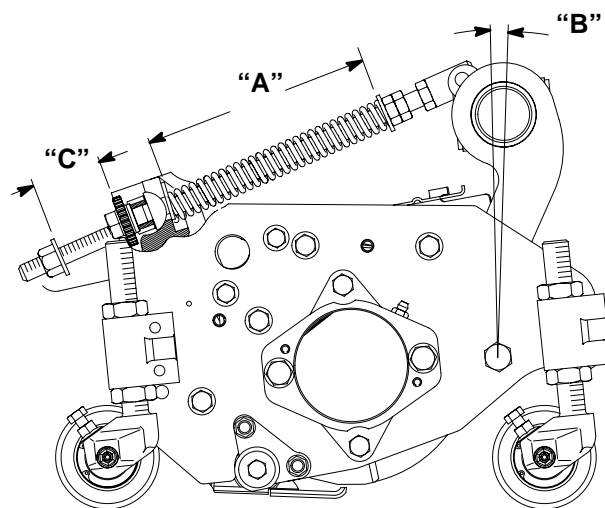

Figure 21
The Turf Compensation Spring (Fig. 21), connecting carrier frame to cutting unit, controls the amount of fore-aft rotation available, as well as the amount of ground clearance in transport and turn around.
1. Tighten lock nut on rear of spring rod until the gap (C) between rear of spring bracket and front of washer is 1" (26 mm) (Fig. 21).
2. Tighten hex nuts on front end of spring rod until the compressed length (A) of spring is 8" (203 mm) (Fig. 21).
Note: When cutting rough or undulating turf, increase compressed length (A) of spring to 8-1/2" (216 mm) and gap (C) between rear of spring bracket and front of washer to 1-1/2" (39 mm) (Fig. 21).